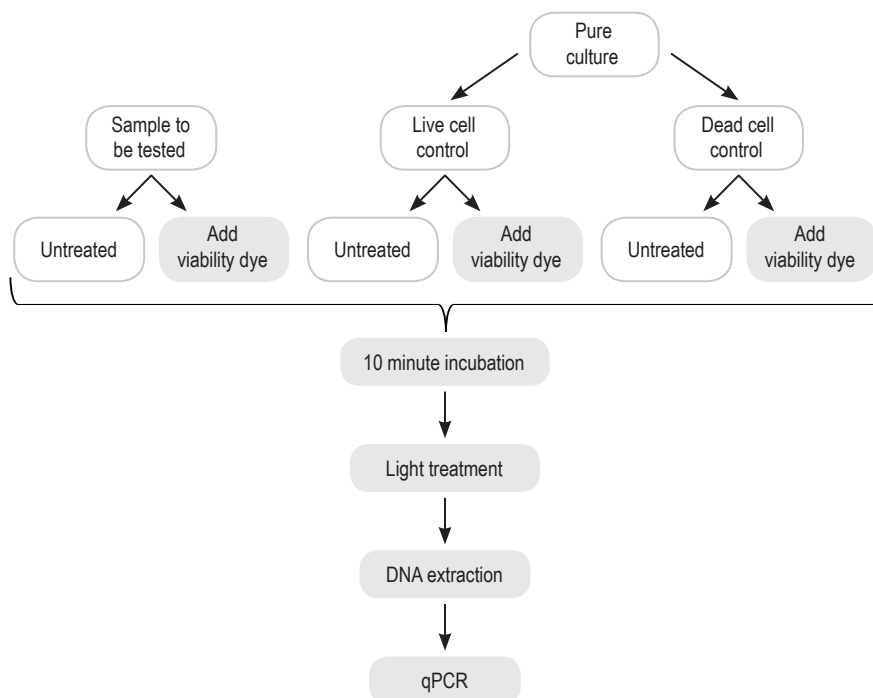

Figure 2. Viability PCR workflow overview, with recommended live and dead cell controls.
- In order to validate PMAXx™ effectiveness in your sample of interest, it is best to perform live-cell and dead-cell controls, each with and without PMAXx™ (Fig. 2). The change in Ct (dCt) caused by PMAXx™ for each control should be assessed (see "Data Analysis", p. 2).
See Fig. 2 for an overview of the procedure. This is a general protocol for treating cultured strains of bacteria with PMAxx™. It is recommended that you first perform a control experiment with live and dead controls for your selected organism. Treatment of complex samples, such as feces or soil, may require optimization of sample dilution, dye concentration, and light treatment time. Treatment of dilute samples, such as water testing, may require filtration or concentration before PMAxx™ treatment.
3. Pipette 400 uL aliquots of bacterial culture into clear microcentrifuge tubes. For each sample you will need one tube for PMAxx™-treated cells and one tube for untreated (no dye added) in order to calculate dCt (see Fig. 2, "Considerations for viability PCR" #8, and "Data Analysis" for details).